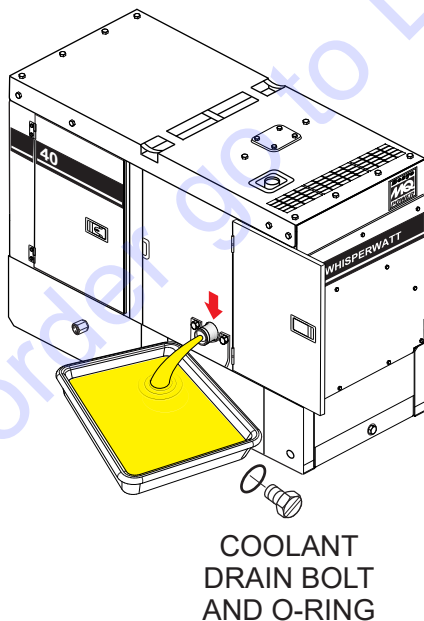

Figure 66. Draining Radiator Coolant
2. Open the cabinet door and remove the coolant drain bolt and O-ring (Figure 66), then allow the coolant to drain into a suitable container.